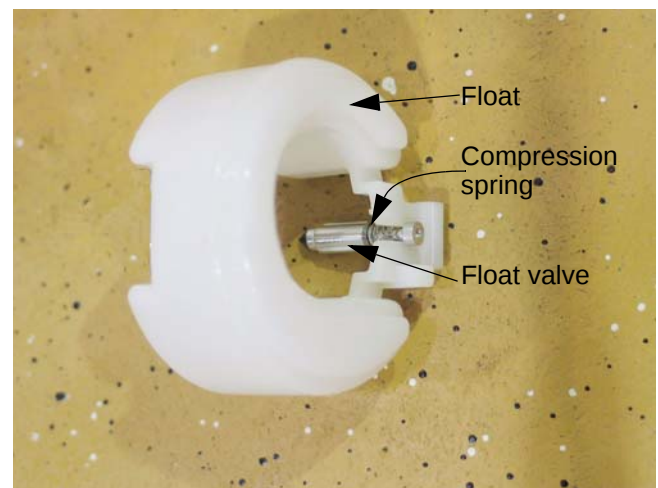

Figure 8.27
8.27. The float is not adjustable. Spring tension against the float valve begins to build from the horizontal position, putting progressively more pressure between the tip of the valve and the seat. See Figure 8.27.